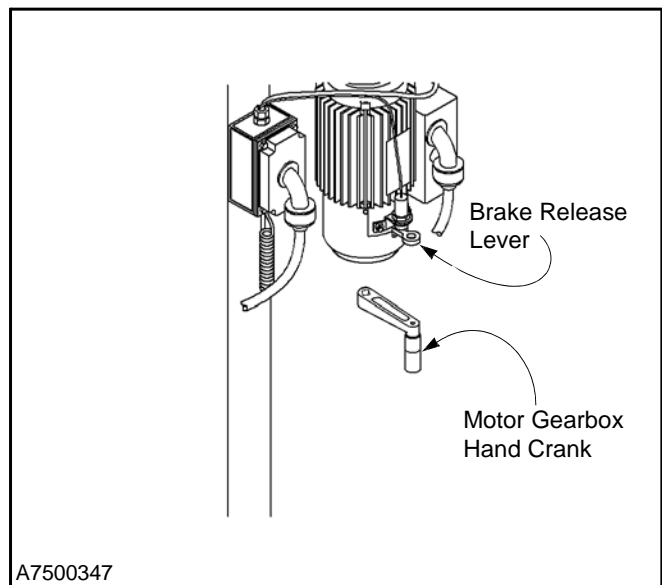

Figure 34
10. Locate the motor gearbox hand crank that was packed for shipping in the small parts carton. Then connect the crank to the shaft of the motor gearbox. The shaft is accessed through the hole in the bottom end of the motor. (See Figure 34.)
11. Pull down and hold the brake release lever located on the side of the motor. Then lower the door by working the crank until the counterweights just lift off the support blocks. (See Figure 34.)